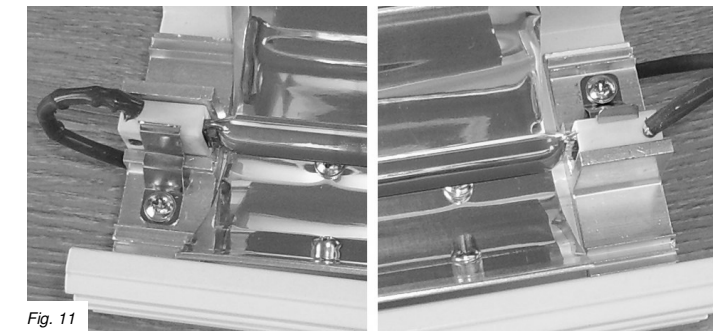

Fig. 11
11. Take your new lamp and refit by ensuring the leads pass down the sides of the lamp holders. The lamp can be clipped in by pulling the tabs back (Fig. 11). Please read the note about handling the lamp on page 7 before continuing.